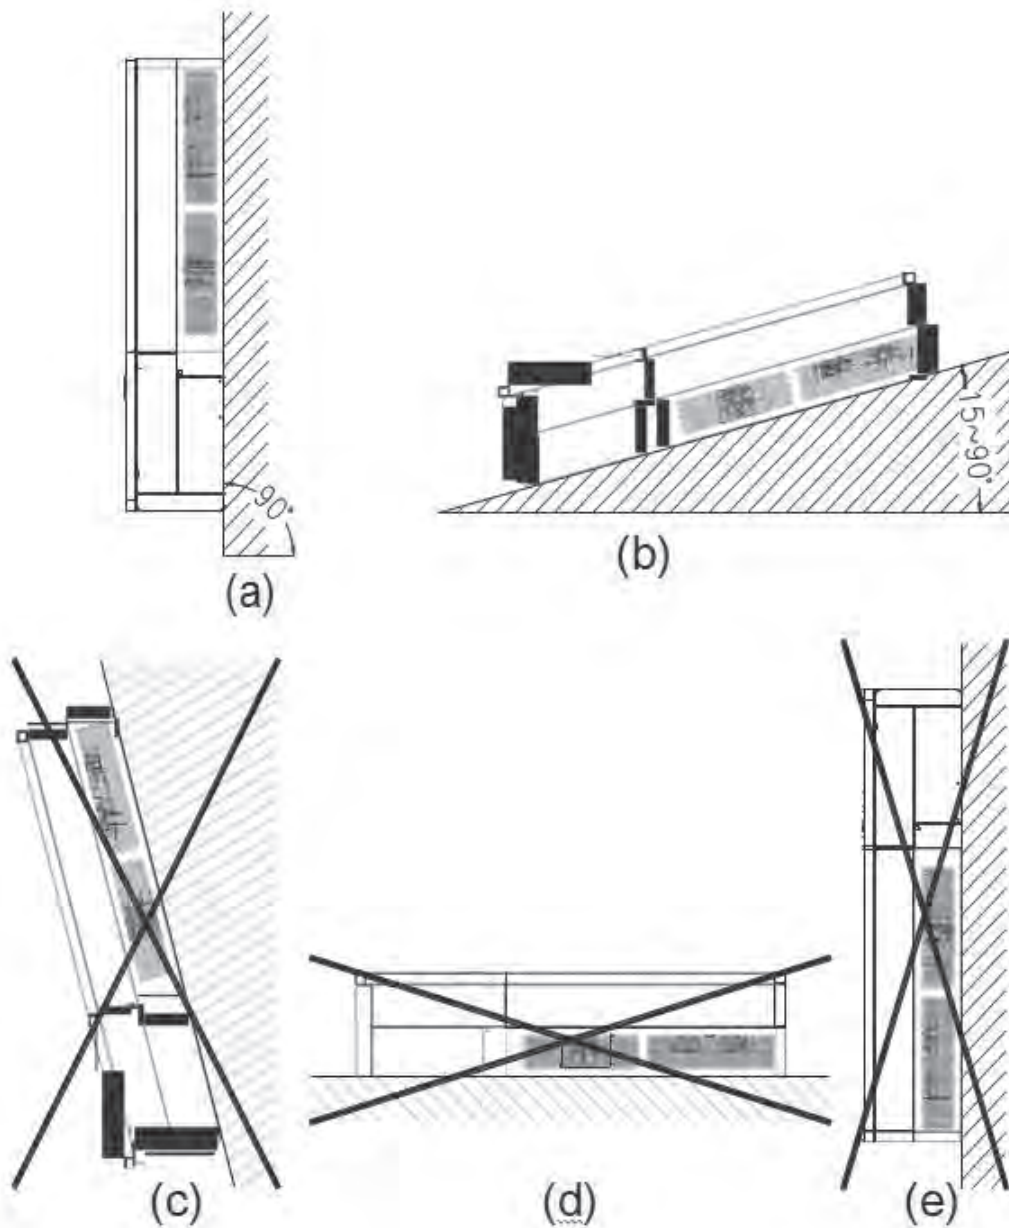

Figure 3-2 Mount the inverter correctly
2) Installation method (see Figure 3-2):